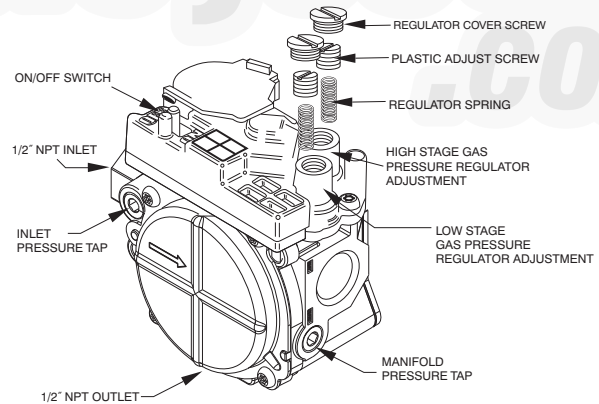

Fig. 32 – Two-Stage Gas Valve (208/230 VAC Models)
1. Remove regulator cover screw(s) over plastic adjustment screw(s) on gas valve (see Fig. 32).
2. Turn the high stage plastic adjustment screw clockwise to increase gas input and counterclockwise to decrease input (see Fig. 32). Manifold pressure must be between 3.2 and 3.8 IN. W.C. for high stage.
3. Replace high stage regulator cover screw on gas valve (see Fig. 32).
4. Turn the low stage plastic adjustment screw clockwise to increase gas input and counterclockwise to decrease input (see Fig. 32). Low stage manifold pressure must be between 1.4 and 2.0 IN. W.C.
5. Replace low stage regulator cover screw(s) on gas valve (see Fig. 32).